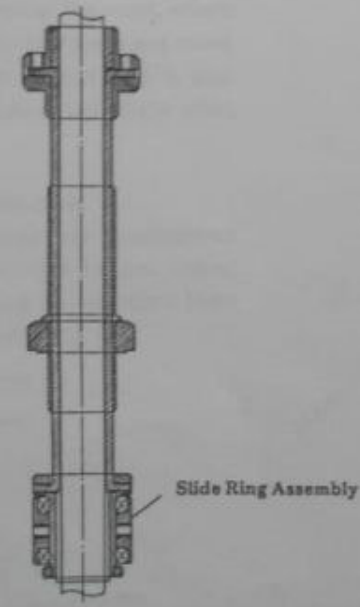

Fig. 4
(see Figs. 4, 5 and 6)
- 17 Before tightening the mast bolt at the bottom of the mast, check the operation of the assembled pitch lever. If it does not move easily, remove the mast referring again to Figs. 4 and 5, and correct the inclination and right-or-left dislocation of the slide ring assembly.